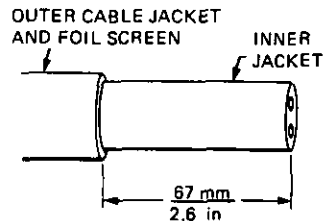

Figure 8.
1. Trim back outer jacket and foil screen as shown in Figure 8. Cut screen lead flush with edge of jacket.